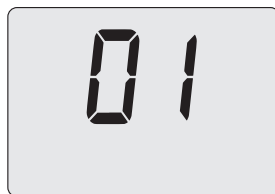

Fig. 10.24
- Press the 17 key and the LCD display shows the number **01**, indicating activation of the “chimney sweep function” at minimum output (Fig. 10.24).